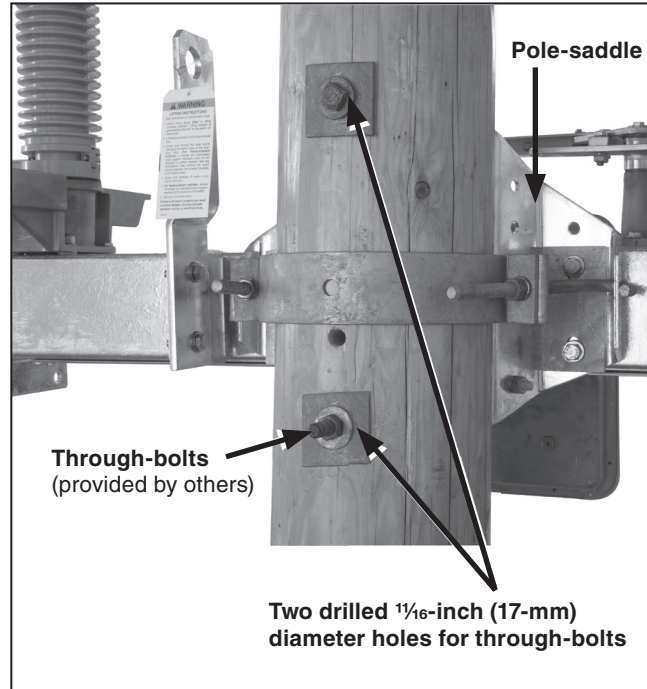

Figure 5. Drilling holes for mounting (upright mounting configuration shown).
Drill two $\frac{1}{16}$ -inch (17-mm) diameter holes in the front of the utility pole at the desired height for mounting the switch. See Figure 5. Refer to the catalog drawing. The centerline-to-centerline distance of the holes must be as follows:
STEP 2. Insert two $\frac{5}{8}$ -inch diameter through-bolts (not furnished) in the holes drilled in Step 1. Secure these bolts loosely with necessary washers and nuts in such a manner the heads of the bolts project sufficiently, approximately 3 inches (76 mm), from the face of the pole to engage the switch mounting bracket. For switches in the pole-top mounting configuration, the nuts must also project approximately 3 inches (76 mm) from the pole because switch mounting brackets must be mounted on both sides of the pole. See Figure 5.